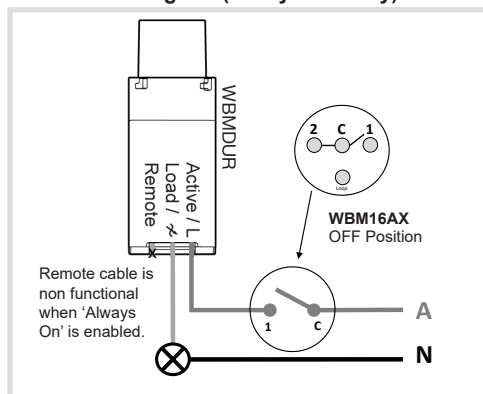

Fig. 4
- For Always On function, the dimmer must be wired to a separate switch as per Fig 4